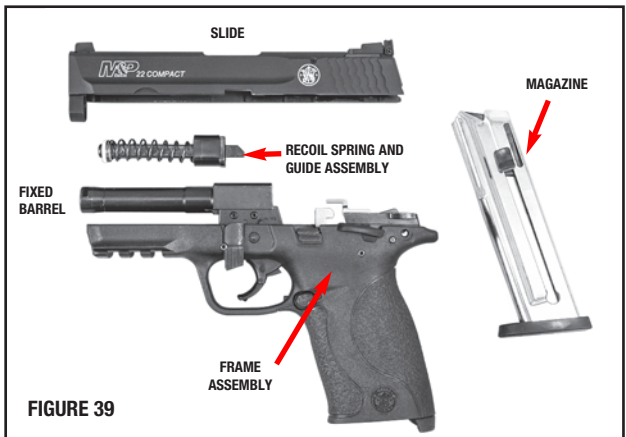

FIGURE 35
- Rotate the takedown lever clockwise 90 degrees into the 6 o'clock position, as shown (FIGURE 35).